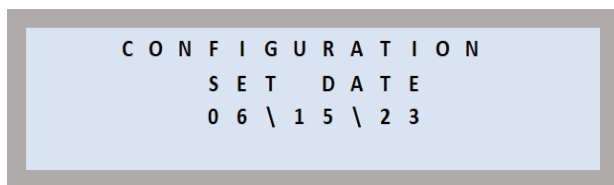

Figure 51
- The program accepts the date settings and returns you to the Configuration Set Date (06/15/23) default screen. The date on this screen (see Figure 51) is always 06/15/23. The newly set date will not show on this screen, but will be reflected on all other dated screens, such as the Title screen and Test screens.